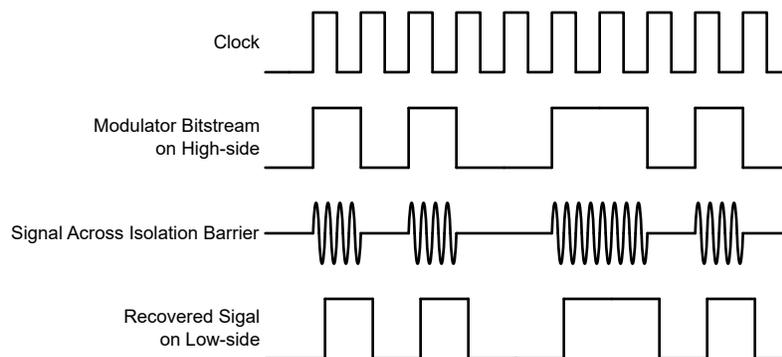

Figure 7-4. OOK-Based Modulation Scheme
The AMC1333M10 uses an on-off keying (OOK) modulation scheme, as shown in Figure 7-4, to transmit the modulator output bitstream across the SiO₂-based isolation barrier. The transmit driver (TX) illustrated in the *Functional Block Diagram* transmits an internally generated, high-frequency carrier across the isolation barrier to represent a digital *one* and does not send a signal to represent a digital *zero*. The nominal frequency of the carrier used inside the AMC1333M10 is 480 MHz.
Figure 7-4 shows the concept of the on-off keying scheme.